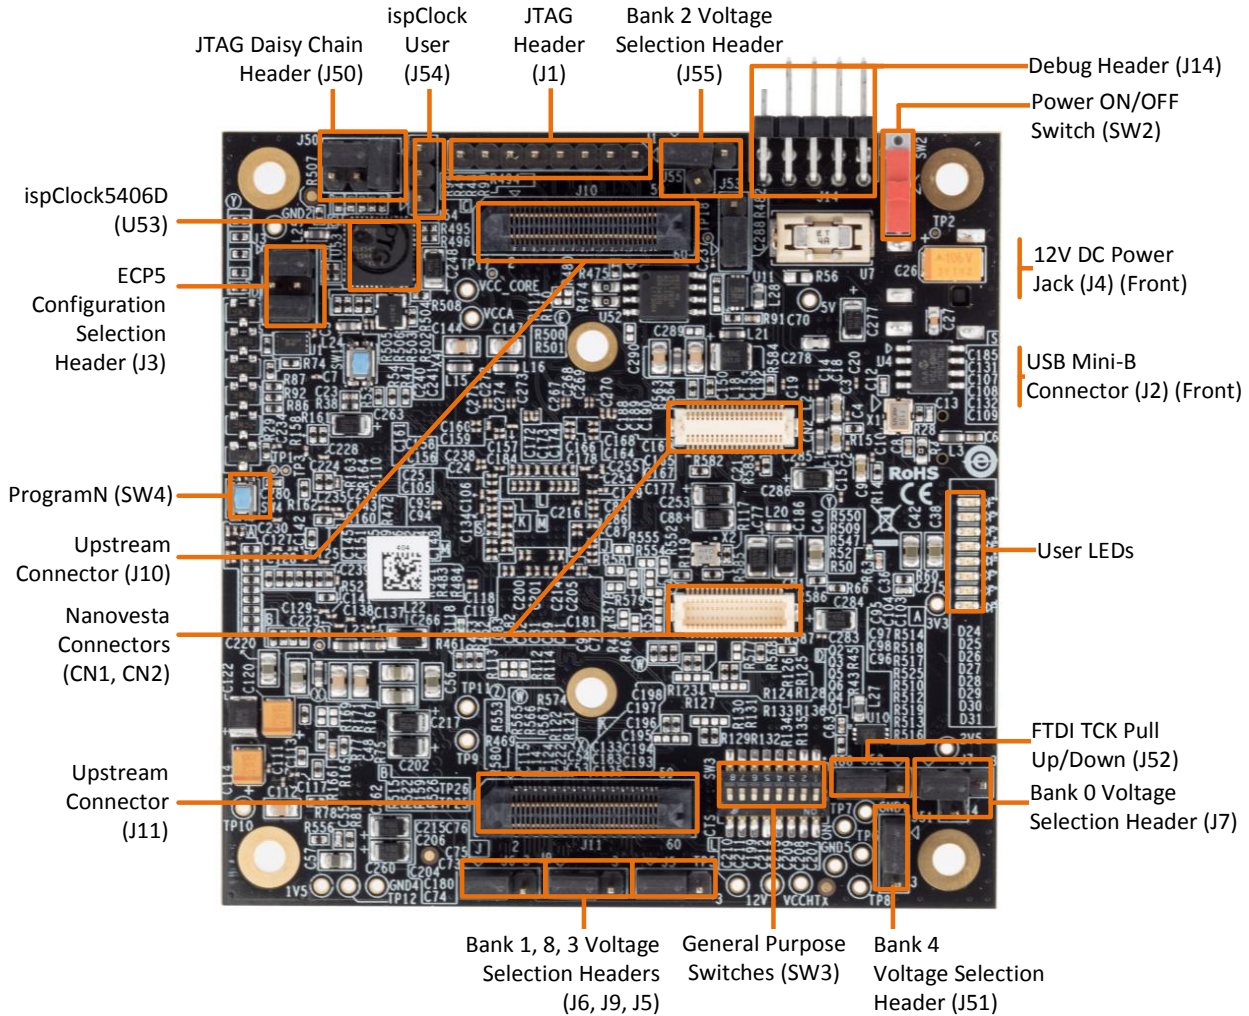

Figure 3.1. Back View of ECP5 VIP Input Bridge Board
1. On the ECP5 VIP Input Bridge Board, make sure the jumper settings are as shown in Figure 3.1.